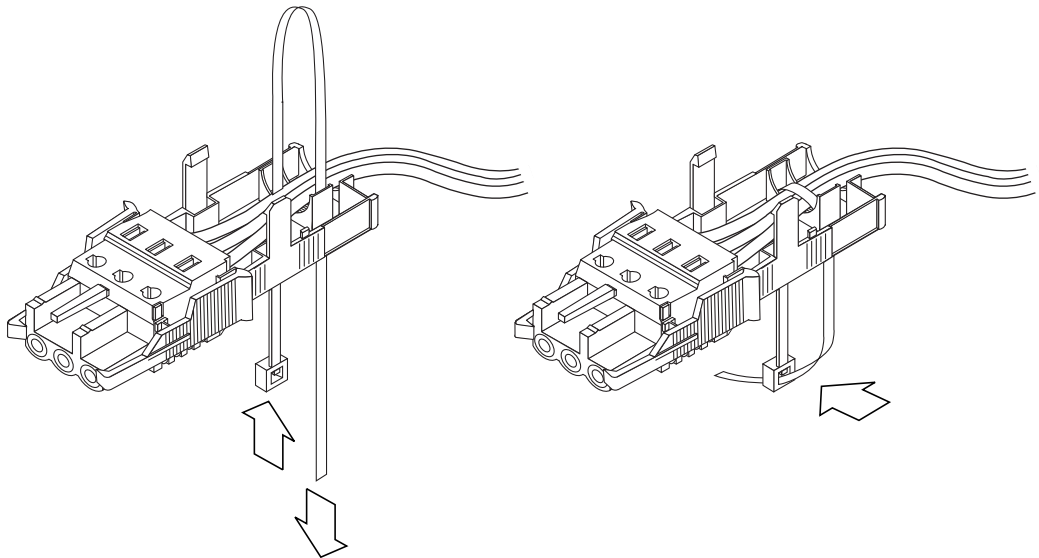

FIGURE 3-7 Securing the Wires to the Strain Relief Housing
- 3. Get the tie wrap and insert it into the bottom portion of the strain relief housing (see FIGURE 3-7).**
- 4. Loop the tie wrap over the wires and back out of the strain relief housing and tighten the tie wrap to secure the wires to the strain relief housing (see FIGURE 3-7).**